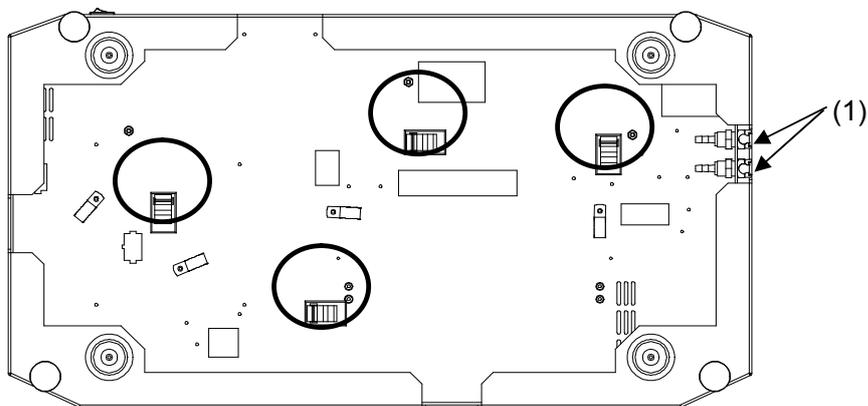

Figure 1.9 Bottom of the P-2000
- (1) Loosen the two fixing screws of the port of the constant-temperature circulation water on the right side of the instrument (Fig. 1.9 (1)).
- (2) Fix the tube for circulation water using the clamp near the desired location (Figs. 1.9 and 1.10).
- (3) Fix the port of the constant-temperature circulation water to the desired destination base using the two fixing screws.